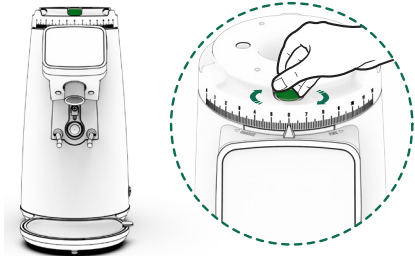

Fig. 6
Once you reach the desired grinding point, you can lock the grinding regulator using the regulator brake. (6) (Fig. 6).